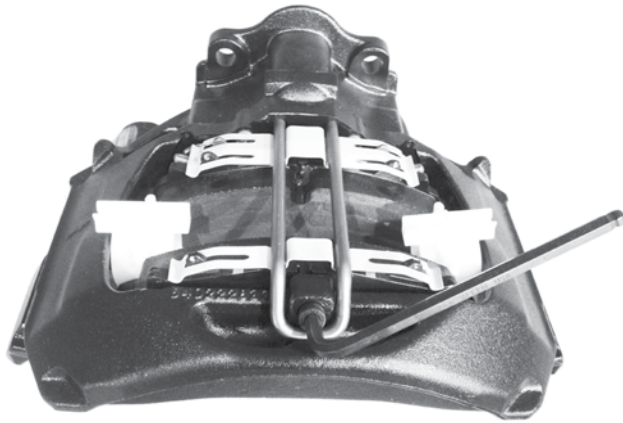

Figure 40: Securing pad retainer bar with pad retainer screw
11. Push the pad retainer bar fully into the holes while pushing downward so the retainer springs are engaged into the bar and there is sufficient clearance to install the pad retainer bar screw (Figure 40 on page 21).
12. **Fasten** the new pad retainer screw to the brake caliper with the specified torque (Figure 40). Refer to APPENDIX A: WRENCH SIZE AND TIGHTENING TORQUES on page 37, item II.